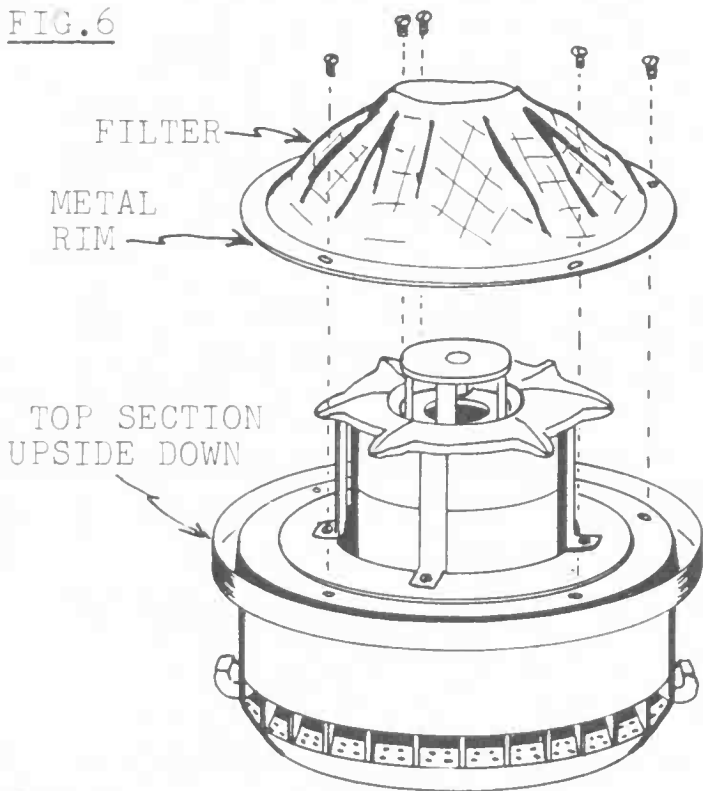

FIG. 7
14. Locate and remove four screws around the top air outlet fitting. (*Figure 7*)